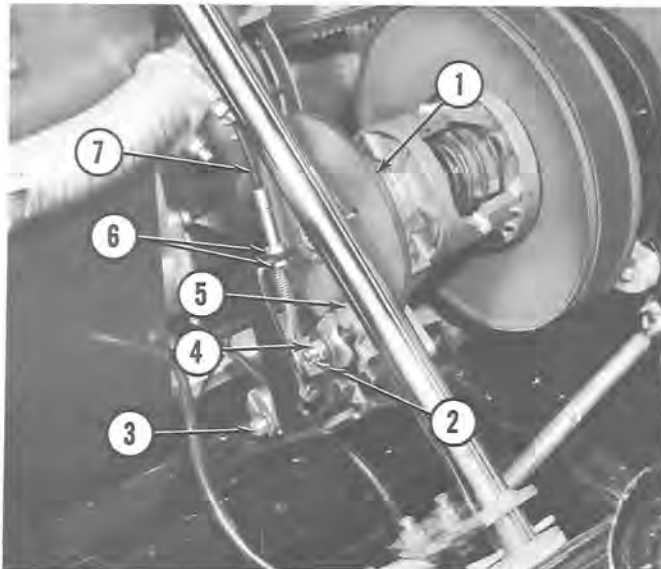

Figure 7
- To adjust the brake pads (5, figure 7) to the disk (1), remove the cotter pin (2) and tighten or loosen the castle nut (4) as required to permit the brake pads (5) to just clear the brake disk. Reinstall the cotter pin. To adjust for excessive play in brake cable or lever position, loosen jam nuts (6) and move brake housing (7) as required. Tighten jam nuts.